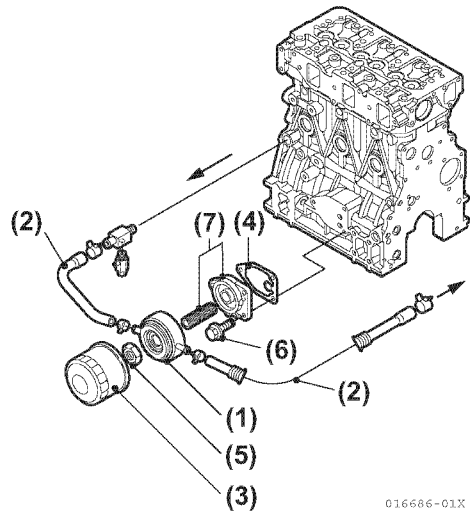
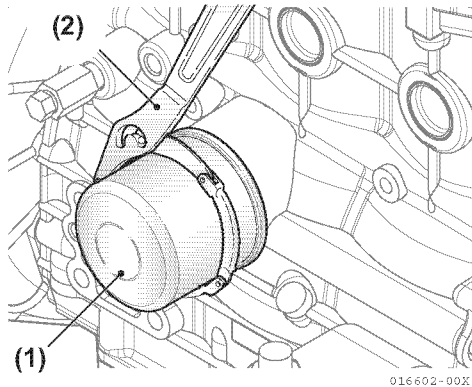

Figure 8-7
Figure 8-8
7. Remove coolant pipes (cylinder block, engine oil cooler (**Figure 8-7, (1)**), engine oil cooler outlet (**Figure 8-7, (2)**).
8. Turn lubricating oil filter (**Figure 8-7, (3)**) counterclockwise using a filter wrench (**Figure 8-8, (2)**) to remove from lubricating oil cooler (**Figure 8-7, (4)**).
9. Remove lubricating oil cooler nut (**Figure 8-7, (5)**) and lubricating oil cooler. Loosen bolts (**Figure 8-7, (6)**) for filter bracket and remove filter bracket (**Figure 8-7, (7)**).
14. Coat the new lubricating oil filter seal with lubricating oil and install the lubricating oil filter (**Figure 8-8, (1)**) manually turning it clockwise until the seal touches the mounting surface, and tighten it further to 3/4 of a turn using a filter wrench (**Figure 8-8, (2)**).